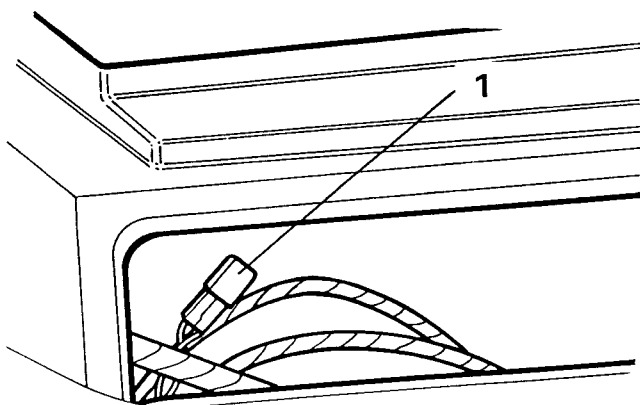

Figure 4
1. Remove two screws and lift the trinket tray from the centre console to gain access to the thermal overload switch, see figure 4.